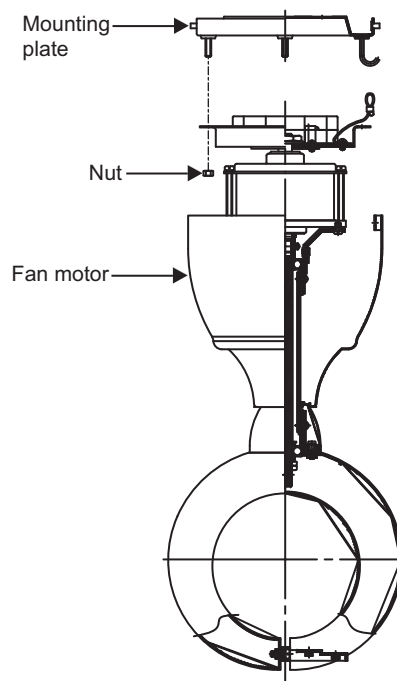

Fig. 4
Step 1. Remove the mounting plate from the fan motor by removing the nuts. (Fig. 4)